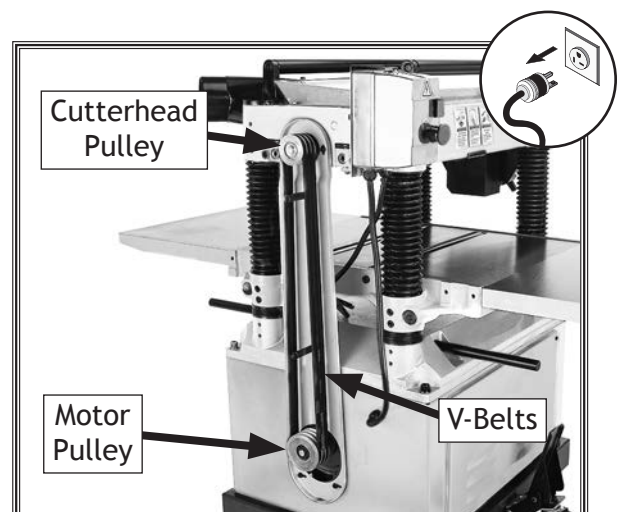

Figure 42. Example of belt cover removed to expose V-belts and pulleys.
2. Remove V-belt cover from left side of machine to expose belts, as shown in Figure 42.